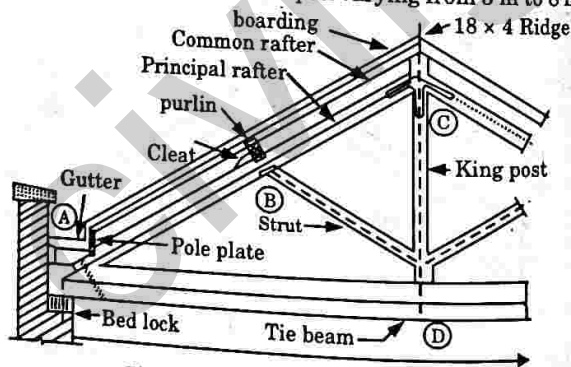

Fig. 4.11.3. Details at joint A.
- v. Magnitude of bending stresses is negligibly small and hence not considered in design. King post truss is shown in Fig. 4.11.3